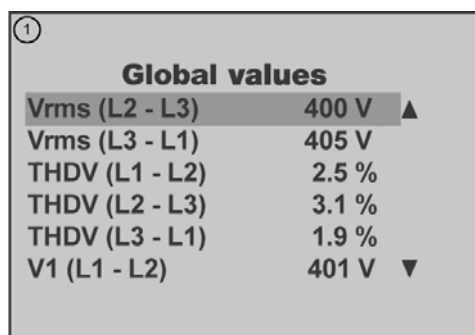

Figure 8.4. Illustration of ▲ and ▼ symbols on the PQF-Manager display
- Sometimes the complete item list in a menu cannot be shown on the display. This is indicated by a small  and/or  symbol that appear(s) at the bottom right and/or the top right corner(s) of the display (Cf. Figure 8.4.)
2. The first field contains a parameter and the second field contains a parameter value which cannot be changed by the user. As an example consider any item of Figure 8.4. Pressing **OK** will not have any effect. Pressing **Esc** will bring up the previous menu.